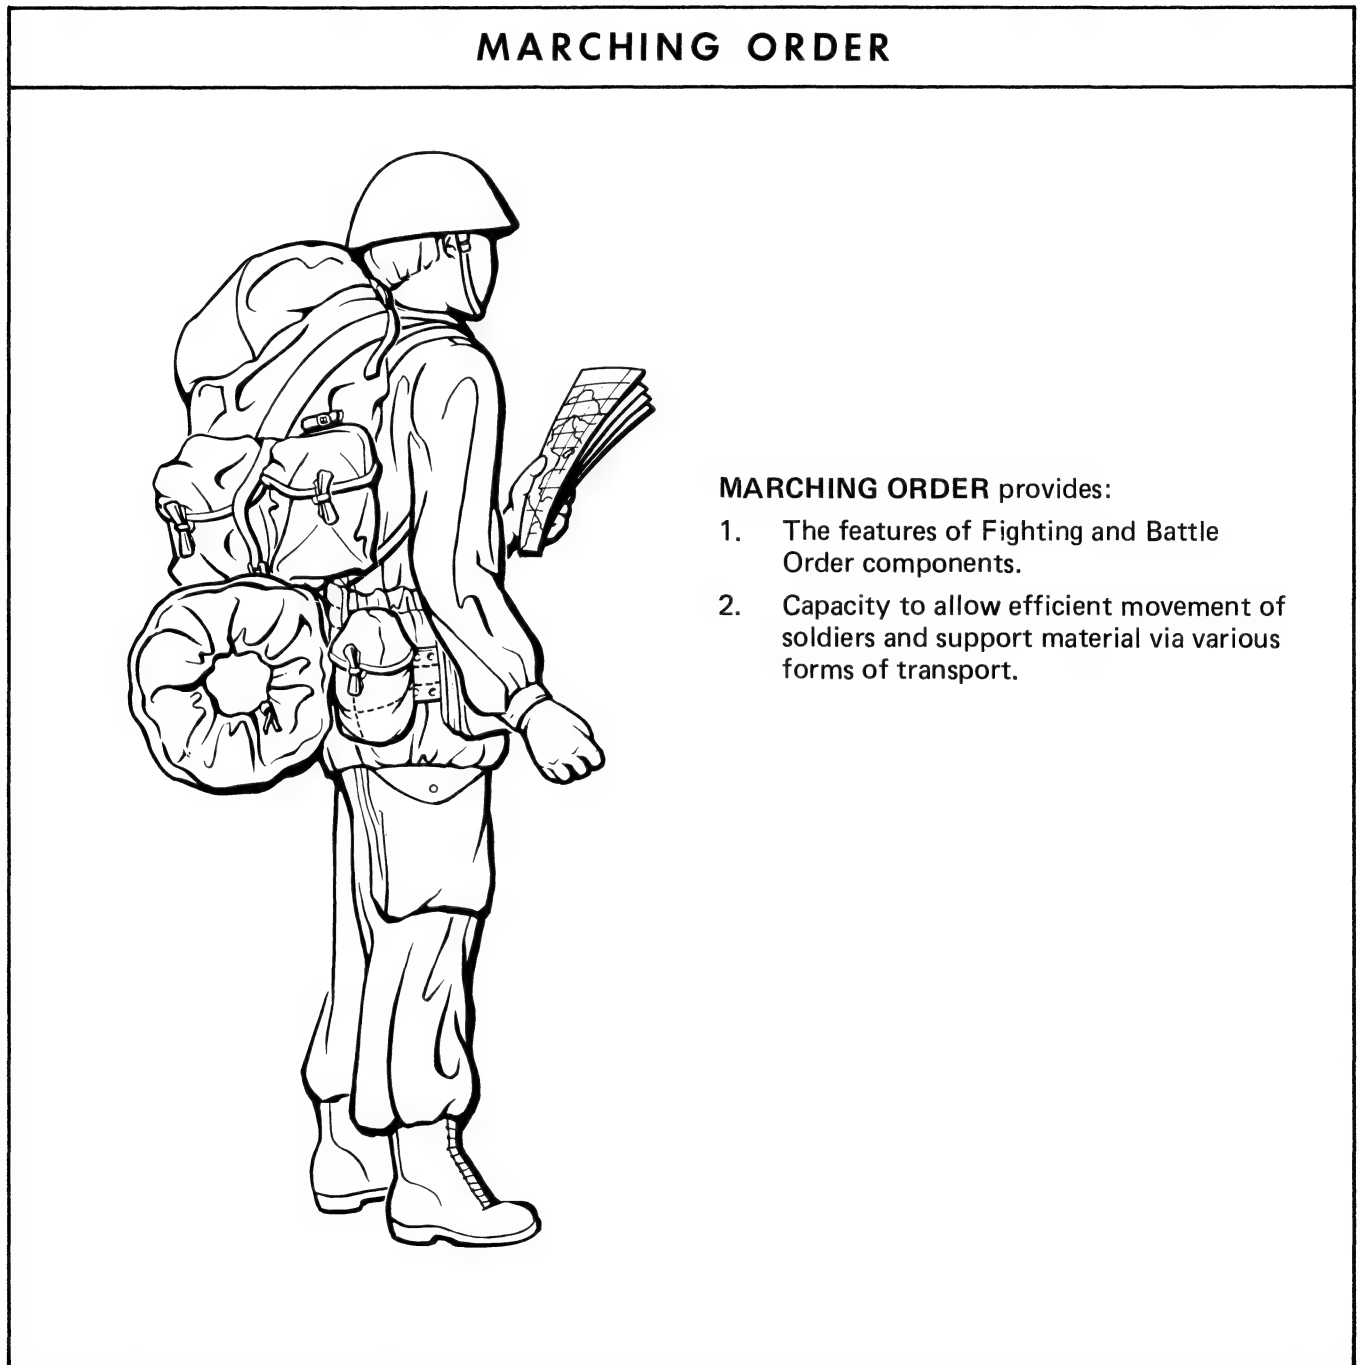

Figure 4-1 Marching Order
1. Marching Order consists of Battle Order plus those items of equipment necessary to support a soldier in the combat zone for an indefinite period of time. The Marching Order is illustrated in Figure 4-1.